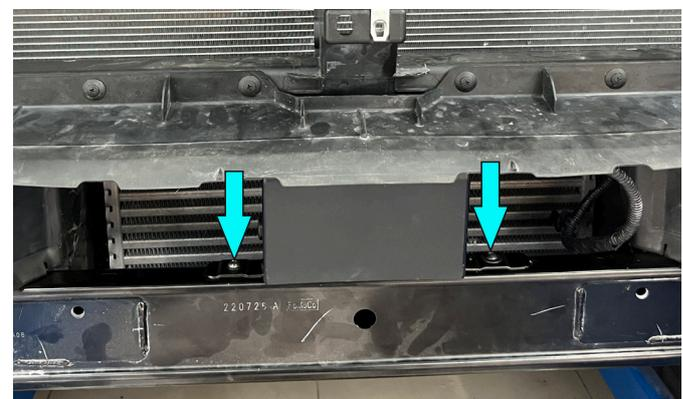

Fig.12
12. If your vehicle has radar, unscrew OE bolts (fig.12).